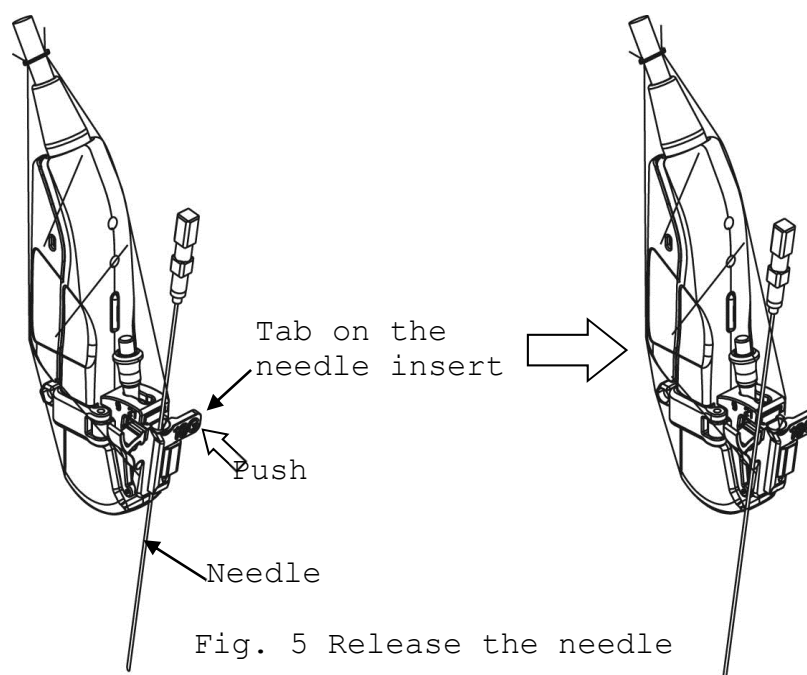

Fig. 5 Release the needle
- 7) In the case of the CIVCO Ultra Pro II, when the needle is released quickly from the probe, press the tab on the needle insert toward the bracket. Move the bracket and needle guide away from the needle. (See Fig.5)